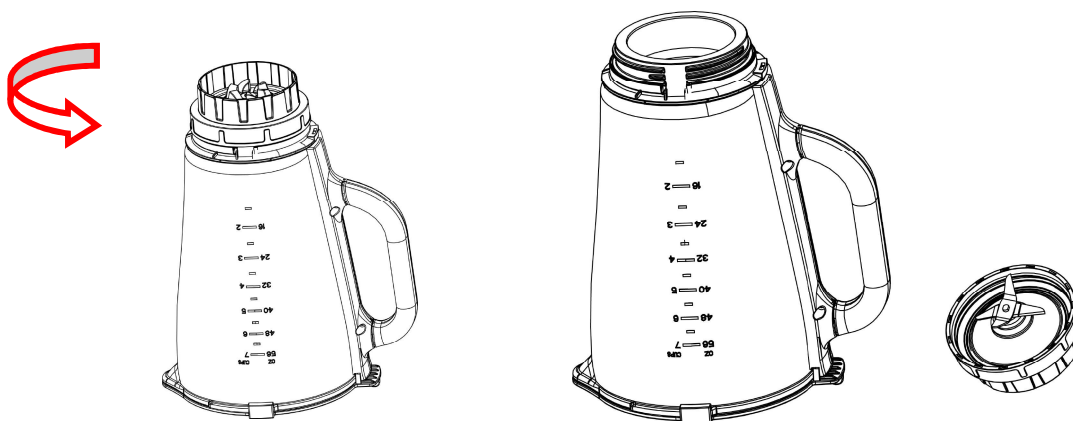

Fig.8
4. Dismantle all detachable parts. Lift the jar assembly off the motor unit. To detach the blade assembly, turn it clockwise from the jar base bottom, and remove the seal ring 2 and blade assembly (see Fig.8). In addition, detach the jar cover seal ring 1 from the jar cover